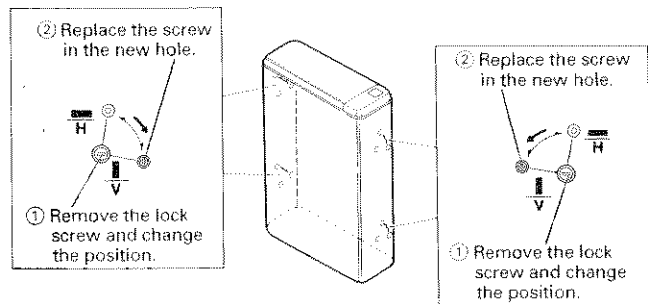

Fig. 2
- Change the positions of all four springs by turning the mounting orientation selectors to V (vertical) with a small flat-bladed screwdriver, as shown in '1' of Fig. 2.
- Replace the removed screws in the screw holes for V, as shown in '2' of Fig. 2.